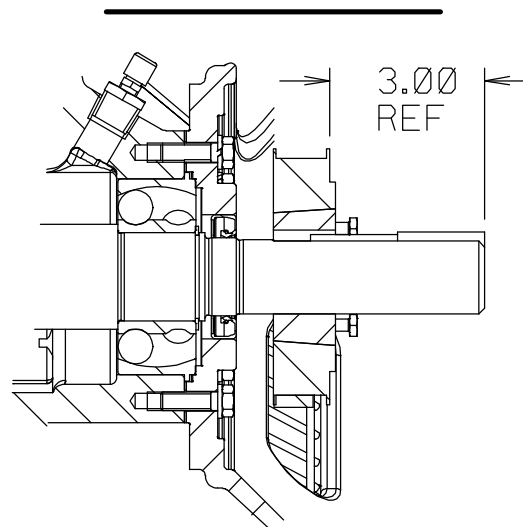

Figure 11. Drive Sprocket Positioning
Install the key (31, Figure 5) in the shaft keyway, making sure to leave room in the keyway for the drive key (23, Figure 5). Install the sprocket (24) and bushing (25) on the shaft to the dimension shown in Figure 11.
When properly installed to the dimension shown in Figure 11, the key (23, Figure 5) **will not** extend fully through the bushing. This is an acceptable fit for this application.